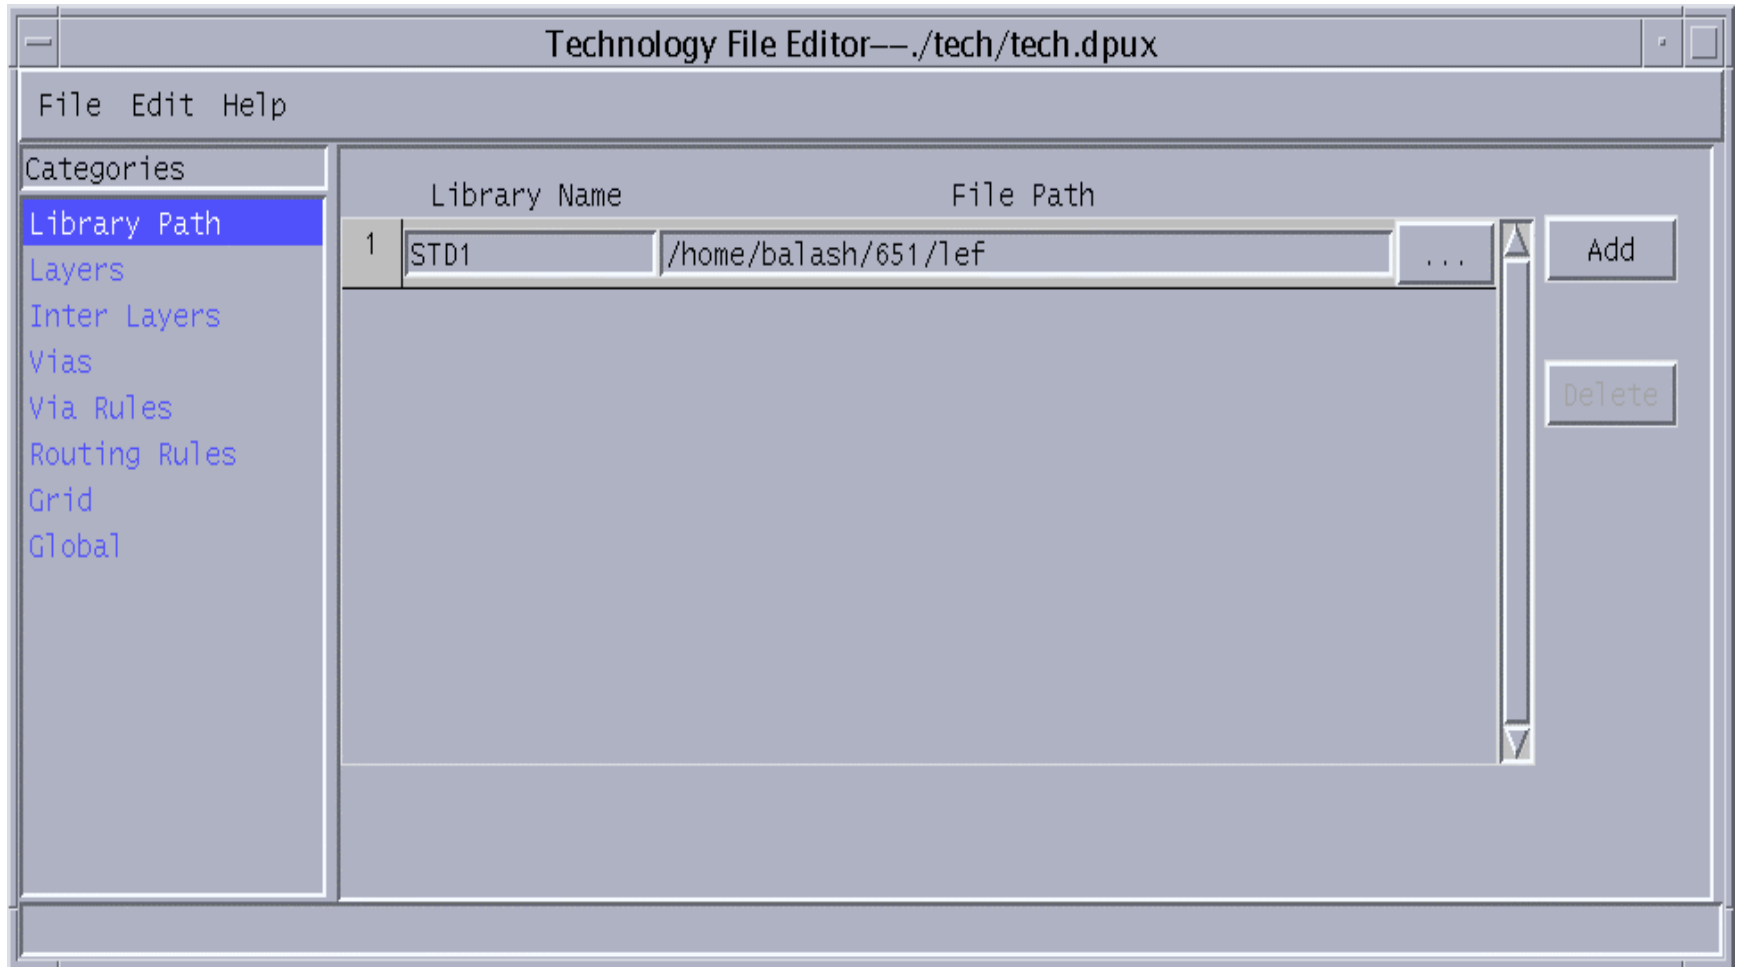

Figure 5: Abstract Generator's tech
- After a few moments, the **Technology File Editor** should appear. Click on **Library path** on the left column, then give “**some library name**” and “**Path**” on the top row. (refer Figure 5, next slide)